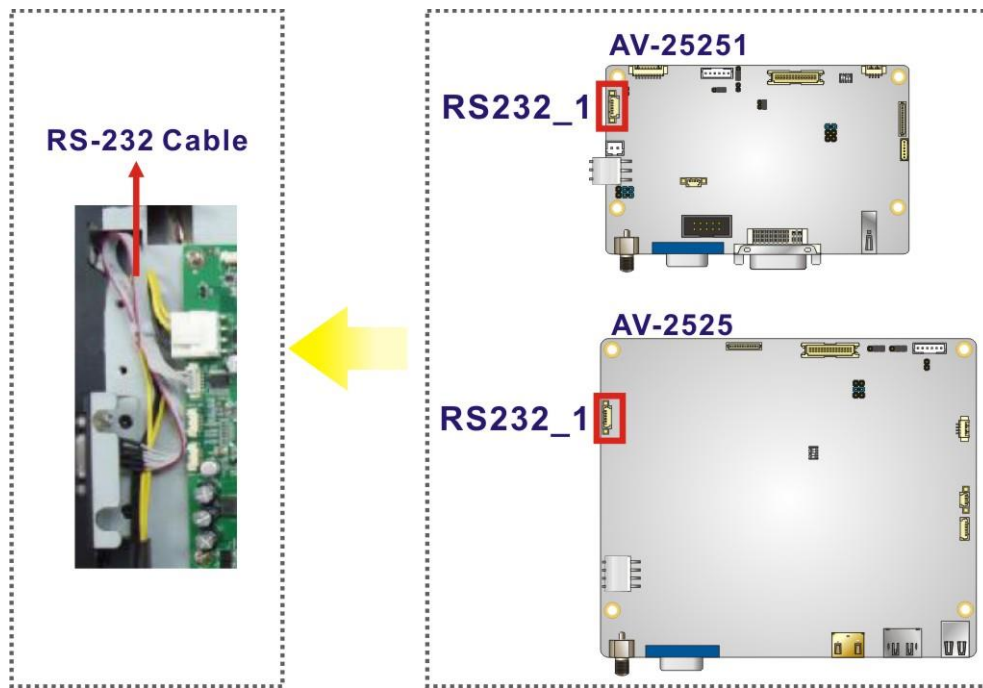

Figure 3-11: Connecting RS-232 Cable
Step 3: Connect the RS-232 flat cable to the internal RS-232 connector (1x9 pin, RS232_1) on the AD board. See Figure 3-11.